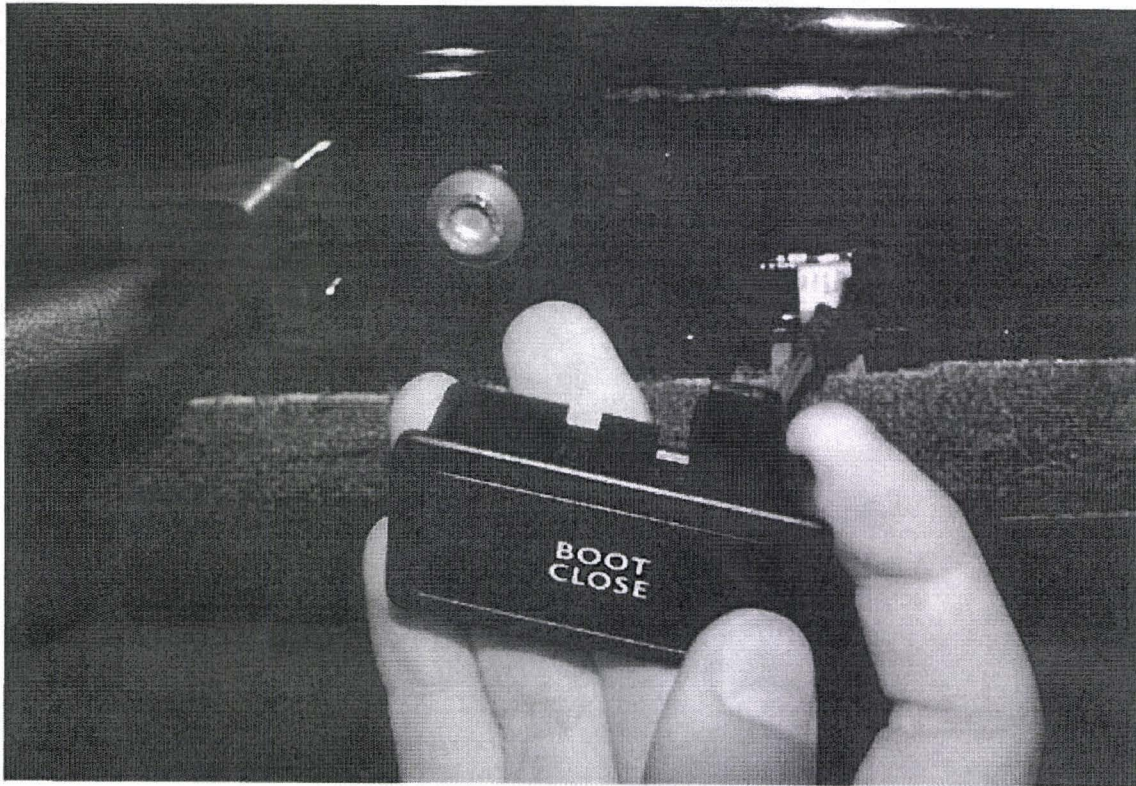

Figure 2
4.Reconnect the switch to the electrical connection (Figure 2) allowing the switch to hang in free air